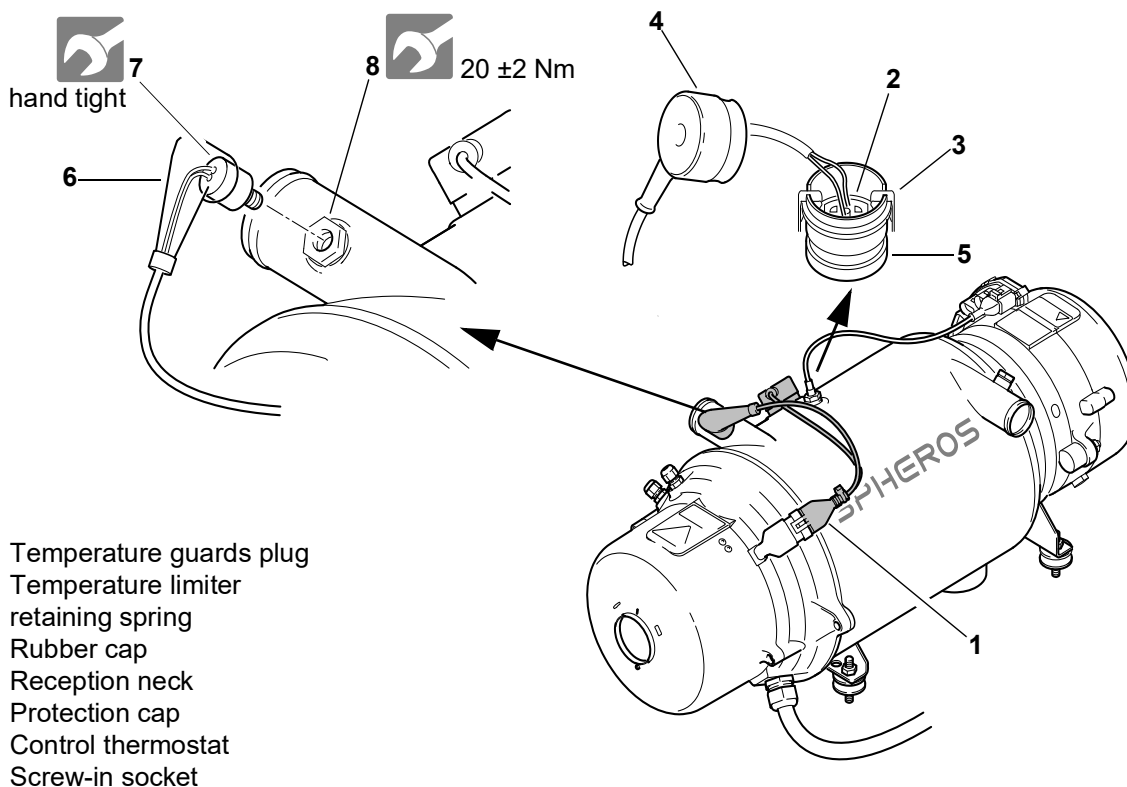

Fig. 801 Removal and installation of the temperature guards
2. Disconnect temperature guards plug (1, Fig. 801).
3. Remove the rubber cap of the temperature limiter (4).
4. Using a screw driver, lever off retaining spring (3) and remove the temperature limiter (2).
5. Remove the protection cap of the control thermostat (6).
6. Screw out by hand the control thermostat (7).
1. Screw the control thermostat (7, Fig. 801) by hand into the coolant inlet.
2. Install protection cap (6).
3. Slide rubber cap (4) of the temperature limiter (2) back until it can be put in its installation position.
4. Position temperature limiter (2) in the reception neck (5) and push in the retaining clip (3).
6. Reconnect the temperature guards plug (1).